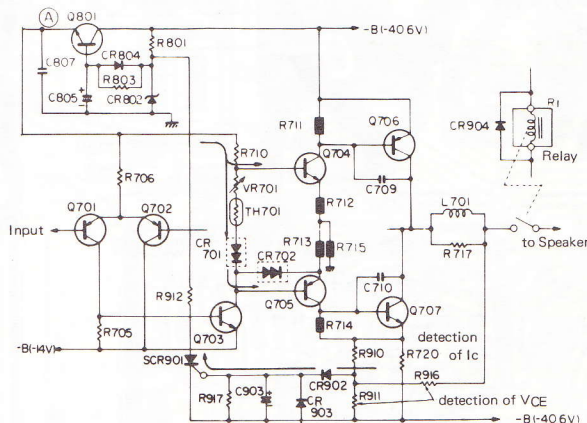

Fig. 4
#### (3) ASO (Area of Safety Operation) detection circuit (Output transistor protection) (Fig. 4)